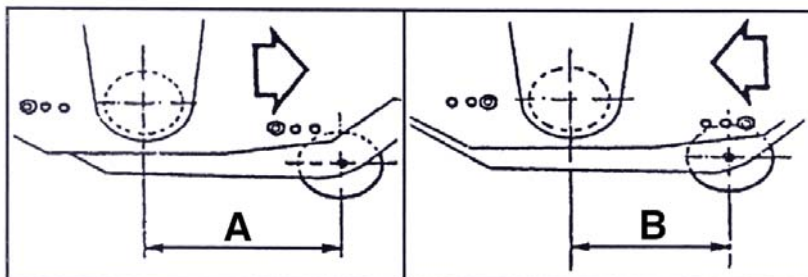

Fig. 7
1. There is also an adjustment that can be made on the roller to control mulch size and power needed. By moving the roller toward the cutting shaft (*Fig. 7*), a finer mulch is produced, requiring less H.P. In this case, we suggest opening the hatch to cut grass, vegetables, cornstalk, cotton, etc.
2. By moving the roller away from the cutting shaft (*Fig. 7*), a coarser mulch is produced, requiring more H.P. In this case, we suggest closing the hatch to mulch prunings.